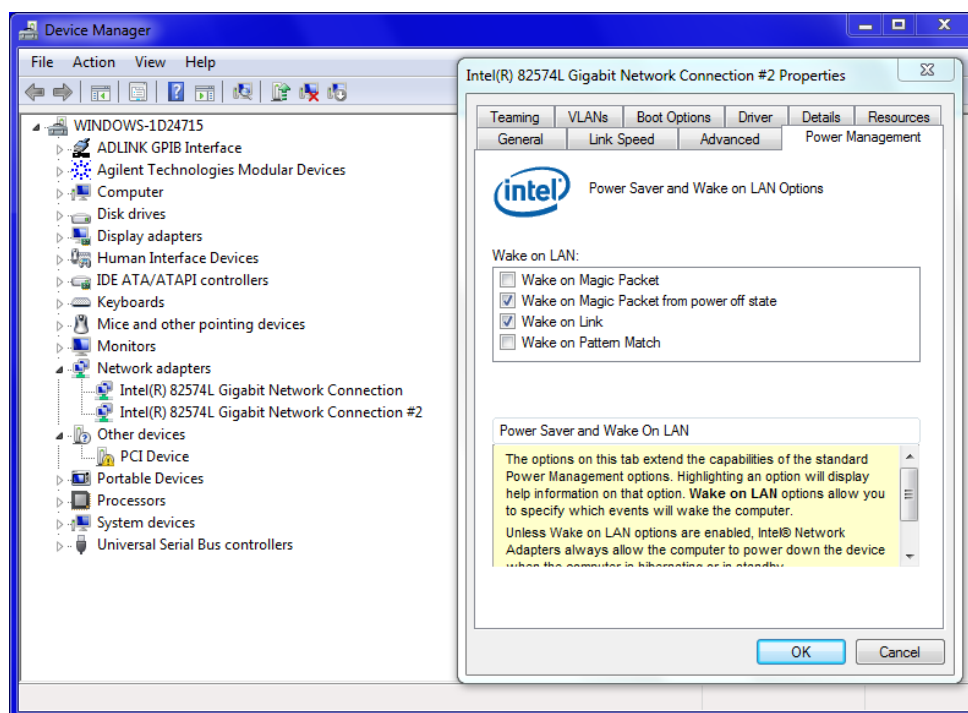

Figure 4 Set the Wake on LAN feature
- 3** Double click on the **Intel(R) 82574_Gigabit Network Connection#2**. This opens the Properties dialog box for the Port #2 NIC. See **Figure 4**.